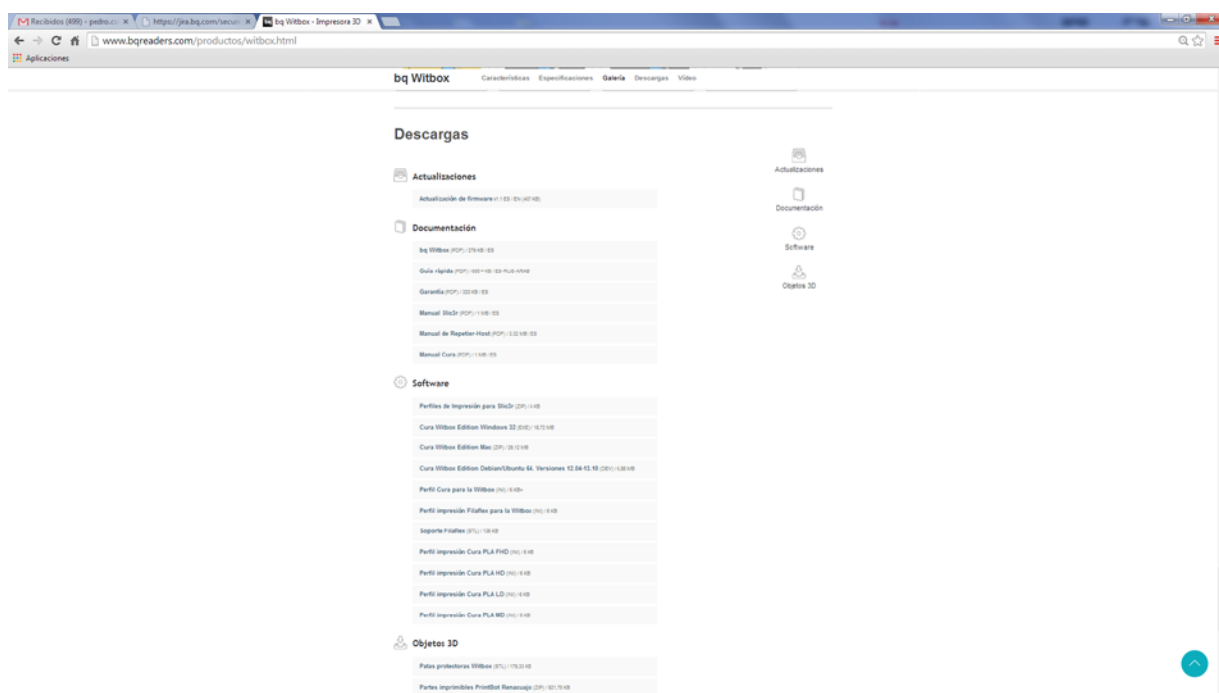

Figure 4.13 Download the firmware from bq's official website
- 1 Download the latest version of the firmware from bq's official website [www.bq.com](http://www.bq.com) (fig. 4.13). The downloaded file will be in **.hex** format.